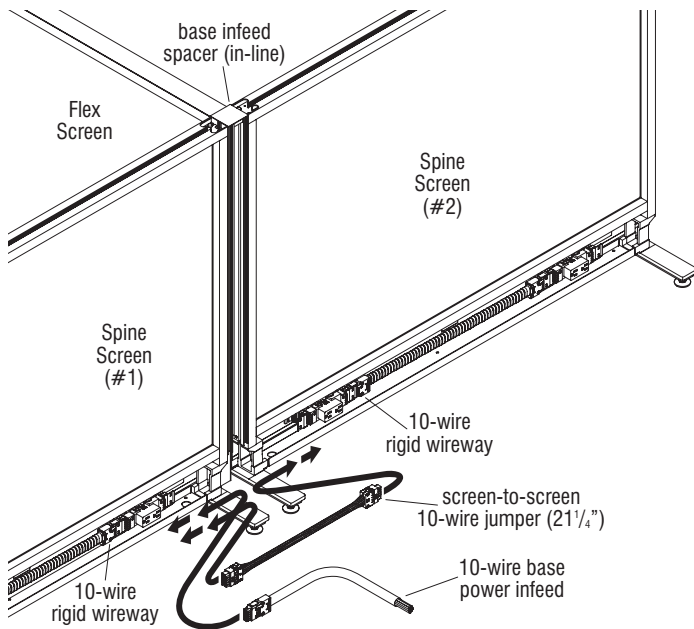

Figure 29
7. At the location specified for a screen-to-screen jumper between the base infeed spacer, route the jumper through the pass-through ankles at each end of the Spine Screen, then plug the ends into each rigid wireway of the powered Spine Screens (Figure 29).
8. Route the 10-wire base power infeed plug end of the infeed through the pass-through ankle and plug it into an open end of a 10-wire rigid wireway (Figure 29).